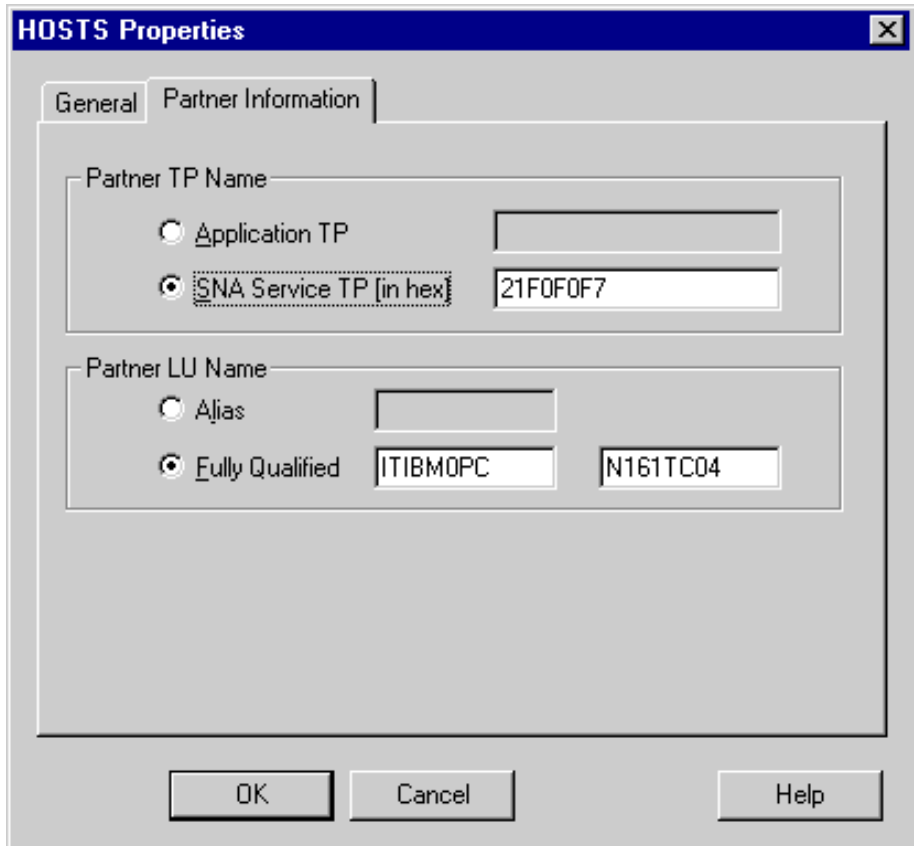

Figure 63. Configuring CPIC properties: partner information for HOSTS
- 12** On the Partner Information page, enter the same values that are shown in Figure 63.